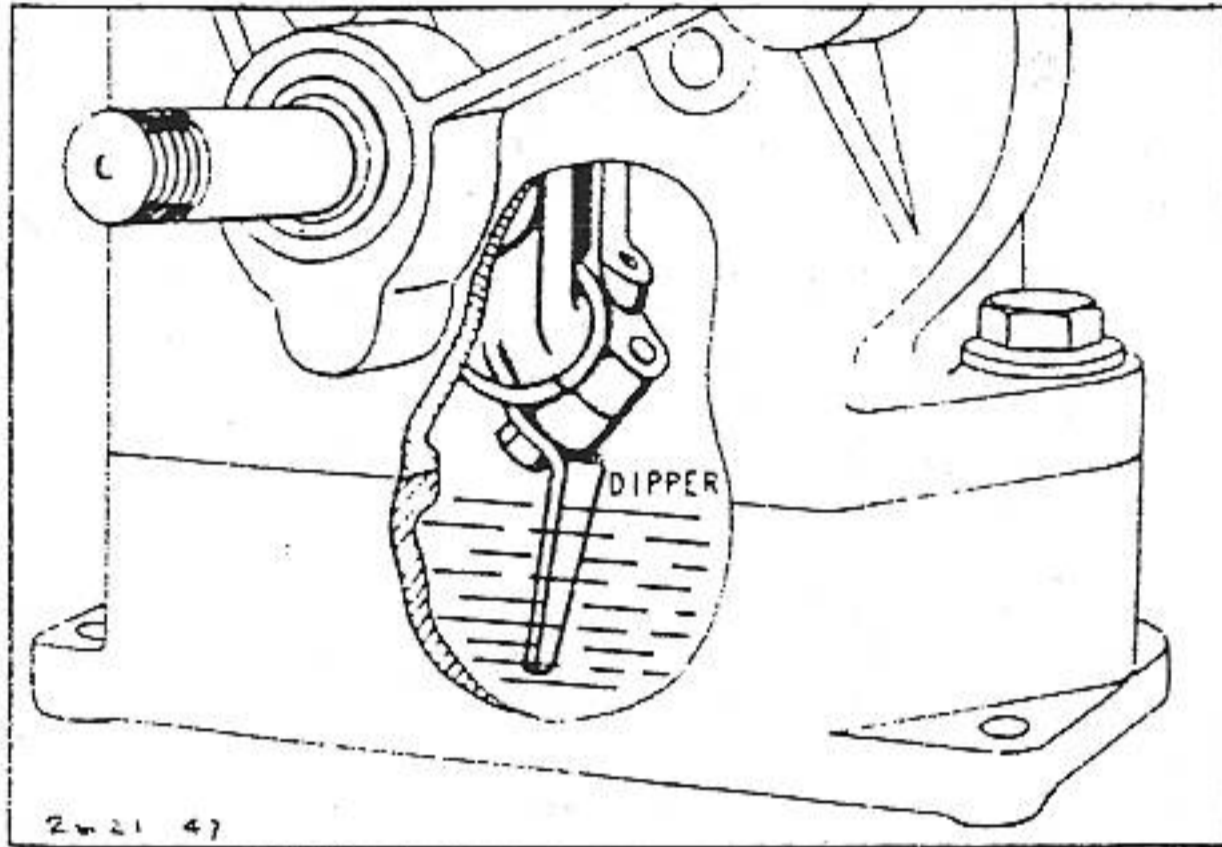

FIG. 172—SPLASH SYSTEM
In the Splash System, the dipper dips into the oil reservoir in base of engine. It has no pumps or moving parts. Fig. 172.
- \*\* - Splash System (See Fig. 172)